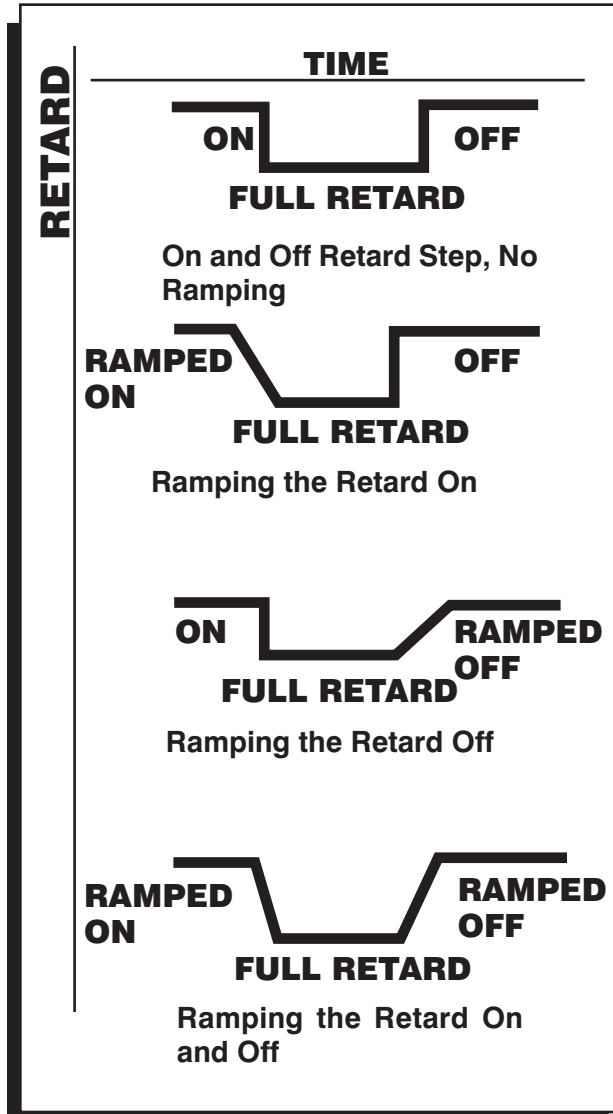

Figure 12 Different Retard Activation Options.
**Step Retard Ramp:** The retard step can be ramped to and from its full retard amount over a time based program (Figure 12). It is adjustable from 0-2.5 seconds in 0.01 second increments. Default is zero for both On and Off.